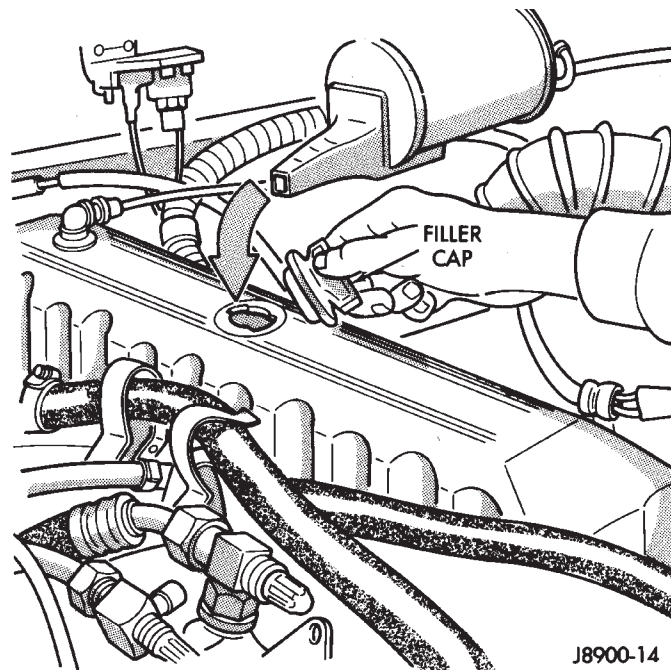

Fig. 8 Adding Engine Oil—Typical
(6) Install and **hand tighten** the oil filter 1/2 to 3/4 of-a-turn clockwise beyond the point where the seal first contacts the cylinder block.
(7) Add engine oil in fill hole located on top of engine cylinder head cover (Fig. 8).
(8) Observe the oil level on the dipstick. Add oil, if necessary, to increase the level to the FULL mark.